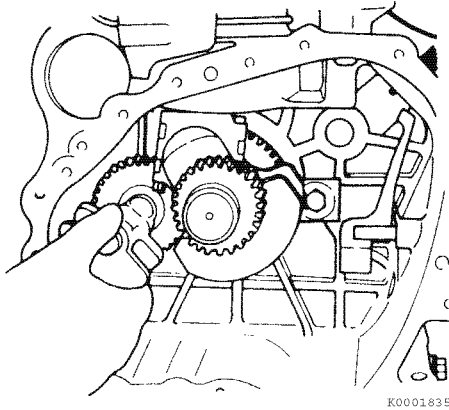

Figure 6-43
7. Remove the balancer **Figure 6-43** shaft by pulling it up and out of the crankcase, rotating as necessary for clearance. As with the camshaft, note the alignment marks where the balancer shaft gear meshes with the crankshaft gear.